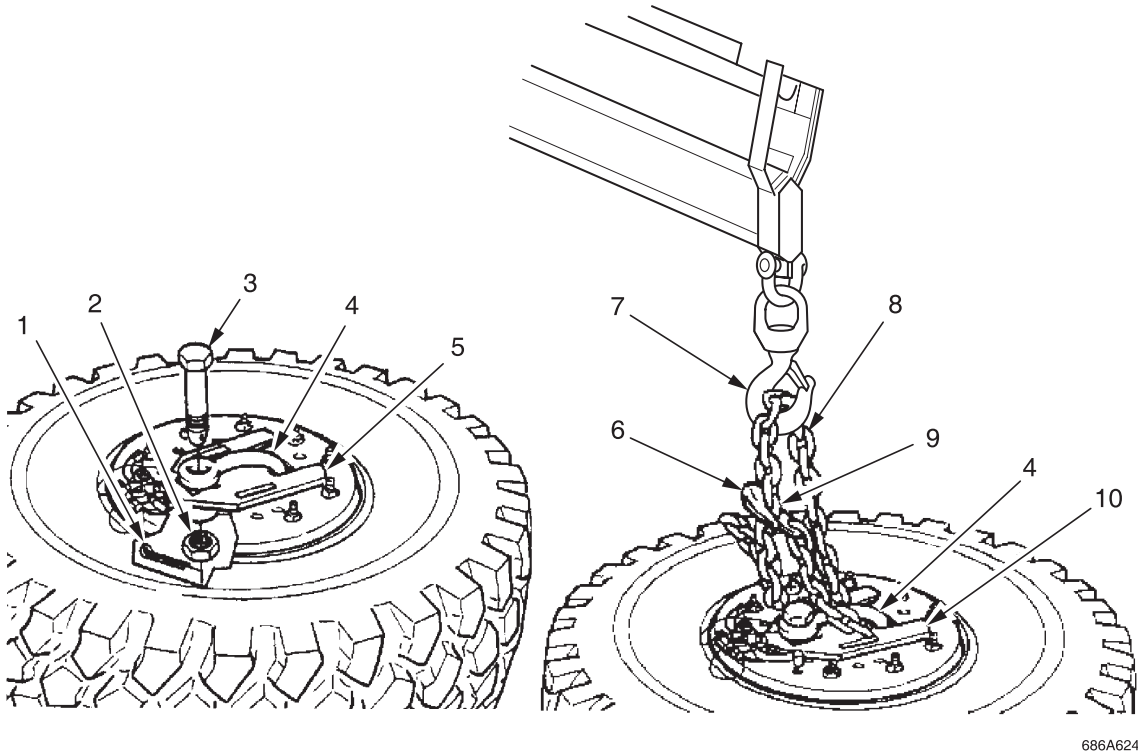

Figure 11. 68 Method of Craning Tire
11.11.3.15 Using the vehicle crane, set into manual operation by moving the manual operation lever next to the operators controls, move the spare tire to its stowed position at the rear of the vehicle (see Figure 11. 70).